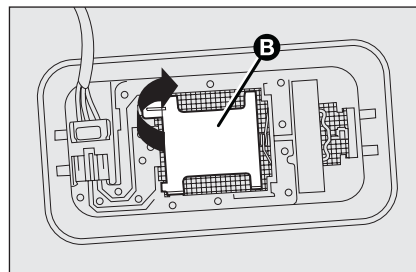

fig. 41
- ☐ open the lid **B-fig. 41** as indicated;
- ☐ close the lid **B-fig. 41** and secure the ceiling light in its housing locking it properly.